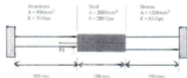

Fig. 1 (b)
- b) The composite bar in Fig. 1 (b) is stress-free before applying axial loads P_1 and P_2 . Calculate the stress in each material if $P_1 = 150$ KN, $P_2 = 90$ KN, and the right wall yields 0.80 mm. (15)